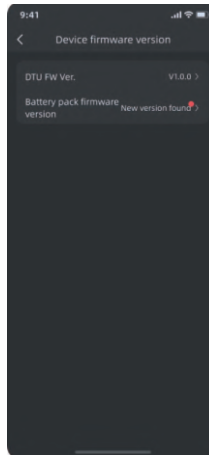

Figure 1
1) Figure 1: Check the current system firmware version and DTU firmware version of the device. When there is a new version, it will prompt "**New version found**" and can be upgraded.